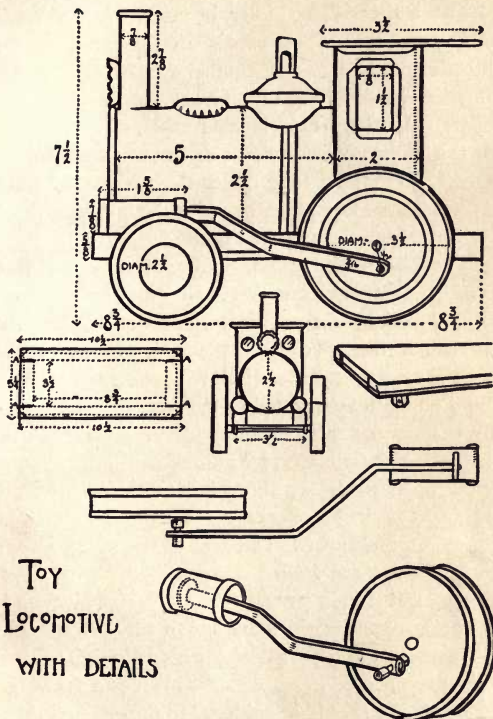

FIG. 89.
THE locomotive shown in Plate XV is made so that the connecting rods move back and forth as the locomotive is pulled along. The principal dimensions are given in Fig. 89. This locomotive is not much more difficult to make than the auto truck, but it should not be attempted until the auto truck is satisfactorily completed.
**The Frame.**—The frame of the locomotive should be made first, and it is made from a flat piece of tin  $5\frac{1}{4}$  by  $10\frac{1}{2}$  inches. Scribe a line  $\frac{1}{4}$  inch inside and along all edges, cut off the corners as shown in Fig. 89 and fold all four edges in. Cut into the corners of the frame on lines *A, A, A, A*.
Turn down the two sides of the frame first, then turn down the two ends. The four pieces of the sides that project beyond the sides are turned in over the ends as shown in Fig. 89. The sides and
**The Boiler.**—The boiler is made of two small soup cans. One whole can is used and the bottom and part of the sides of another can of exactly the same size is soldered to the first can to make a long boiler. One long can, if obtainable, may be used for the boiler. When two or more cans are soldered together to make a long boiler the two rolled rims of the cans soldered together give the appearance of a boiler strap as shown in Fig. 89.
The connecting rods have to be bent at the two angles shown in Fig. 89 so that each rod may be in line with the cylinder and with the driving wheel.